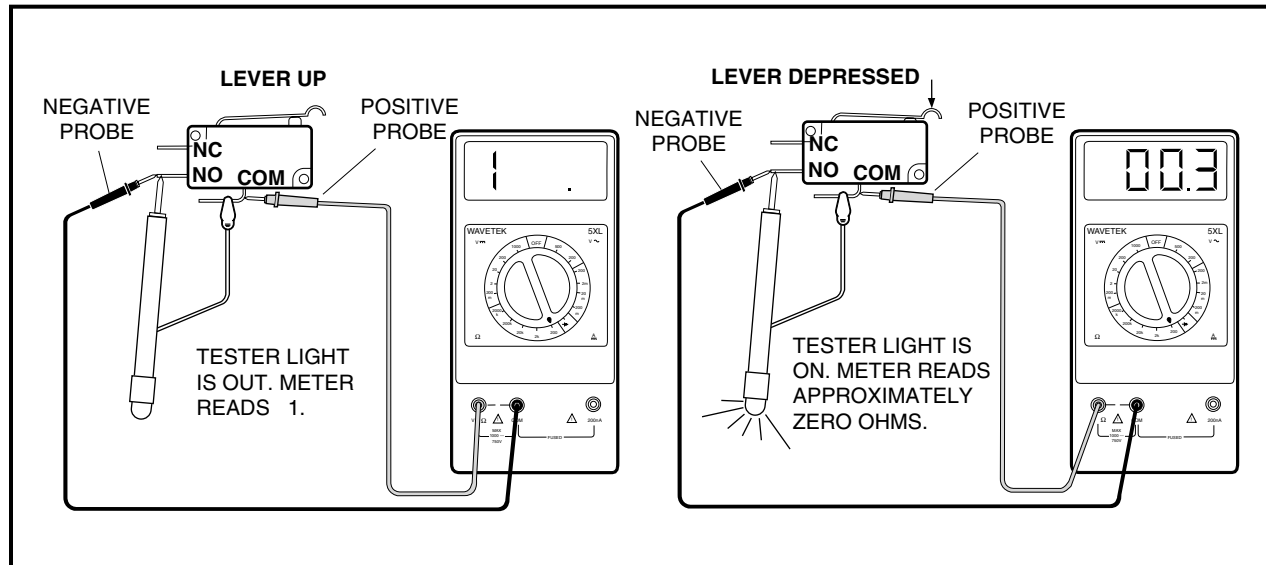

Figure 11-33 Test Lockout Cam Limit Switch
3. Set the multimeter to 200  $\Omega$  (ohms). Place the red (+) probe of the multimeter on the common (COM) terminal of the limit switch. Place the black (–) probe on the normally open (NO) terminal of the switch. Without the lever depressed, the reading should be no continuity. Depress the lever, and the reading should be continuity. If either reading is incorrect, replace the limit switch (**Figure 11-33, Page 11-30**).